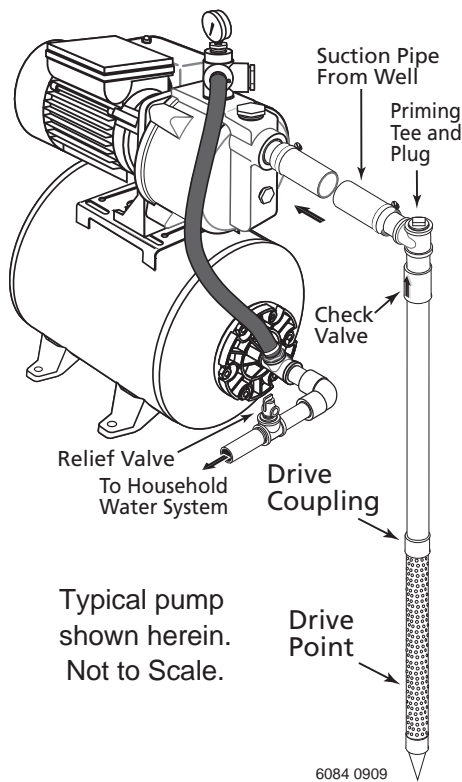
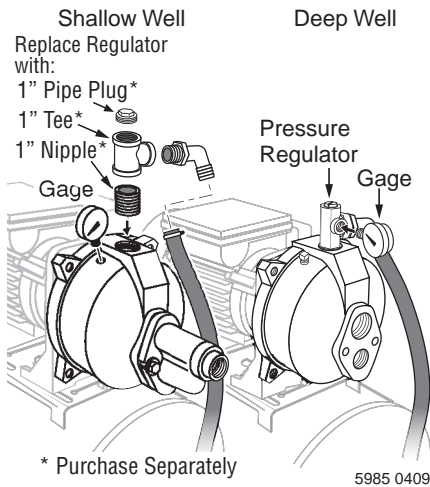

Figure 1: Driven Point Installation
Figure 4: Install Pressure Regulator and Gauge for deep well. Install Priming Tee and Gauge for shallow well.
Well Point (Driven Point) Installation (Figure 1)
- Step 3. Use the fewest possible fittings (especially elbows) when connecting the pipe from the well point to the pump suction port. The suction pipe should be at least as large as the suction port on the pump (include a check valve if your pump is not equipped with one – see Figure 1). Support the pipe so that there are no dips or sags in the pipe, so it doesn’t strain the pump body, and so that it slopes slightly upward from the well to the pump (high spots can cause air pockets which can air lock the pump). Seal the threaded pipe joints with Teflon™ tape or Teflon™ based pipe joint compound approved for use on PVC. Joints must be air- and water-tight. *If the suction pipe can suck air, the pump cannot pull water from the well.* If one well point does not supply enough water, consider connecting two or three well points to one suction pipe.
Step 2. Install the pressure regulator and pressure gauge in the pump body (see Figure 4).
Step 2. Remove the pressure regulator from the pump body. Replace it with a 1" NPT close nipple, a 1"x1"x3/4" NPT Tee, and a 1" NPT pipe plug (see Figure 4). Install the pressure gage in the plugged hole in the pump body (see Figure 4).
- Step 1. Remove the control valve from the pump body. Replace it with a 1" NPT close nipple, a 1"x1"x3/4" NPT Tee, and a 1" NPT pipe plug (see Figure 1). Install the pressure gage in the plugged hole in the pump body (see Figure 4).
- Step 1. Install the pressure regulator and pressure gauge in the pump body. See Figure 4, Page 6.